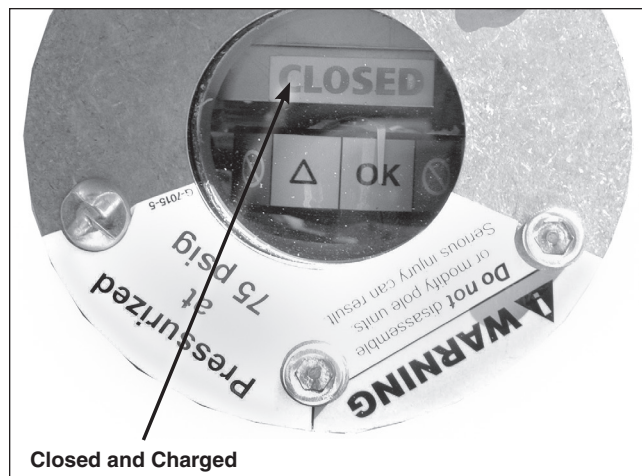

Figure 20. Check that all three pole-units are in the **Closed and Charged** position.
STEP 15. Check that all three pole-units are in the **Closed and Charged** position. See Figure 20.